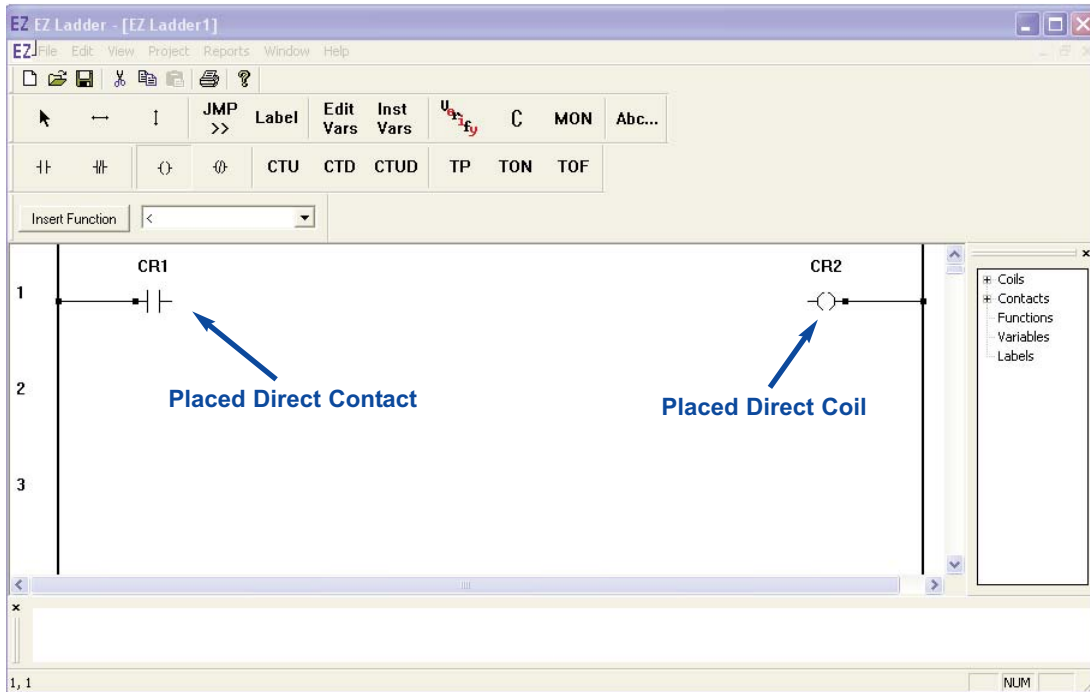

Figure 5.10
A ladder diagram is made of objects tied together by links. To place an object in a project, select the object from the tool bar or the tool bar's drop down menu. Position the pointer where the object is to be inserted and left-click. This "places" the object. Repeat this step for other objects as required. Figure 5.10 shows placement of a direct contact and a direct coil. Refer to section 10 for details on all the functions and their variable requirements.
**NOTE:** When placing objects near the left or right power rails, links are automatically drawn to the power rails as shown in Figure 5.10. This also applies when variables are inserted next to functions; the links are automatically drawn from the inserted variable to the function.